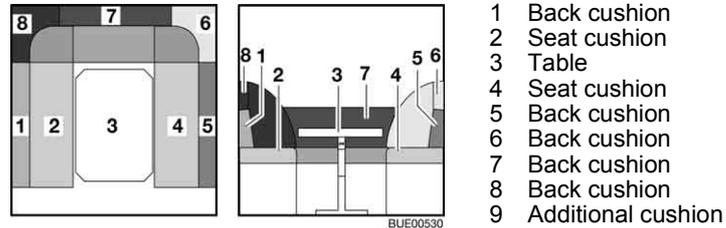

Fig. 91 Prior to conversion
- Convert the table (Fig. 91,3) to a bed foundation (see section 6.11).